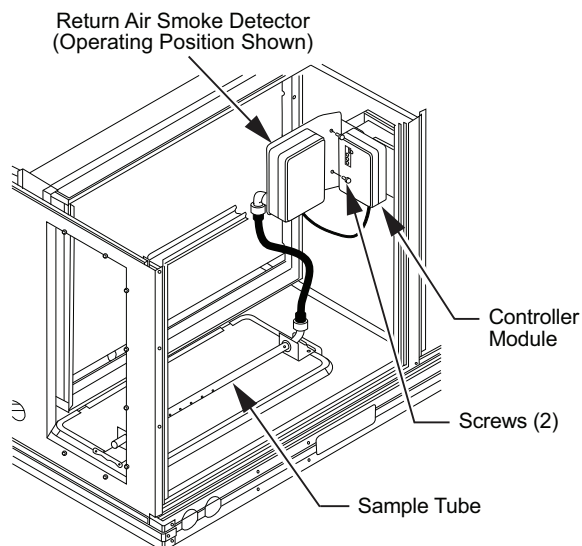

Fig. 58 — Return Air Smoke Detector Operating Position
3. Rotate the detector plate so the sensor is facing outwards and the sampling tube connection is on the bottom. (See Fig. 58.)